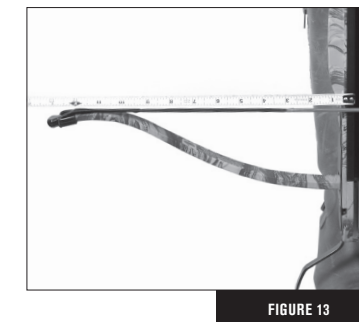

FIGURE 13
1. Use a tape measure to check the distance from the limb tip to where the string crosses the flight rail. This measurement should be the same on each side (Fig. 13).